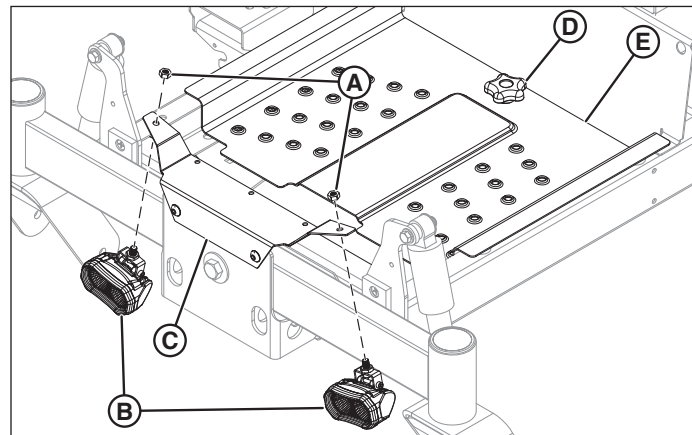

Figure 5. Installing the Light Bulbs (Foot Rest not shown for clarity of image.)
11. Remove the nuts (**A**, **Figure 5**) from the light bulb assemblies (**B**).